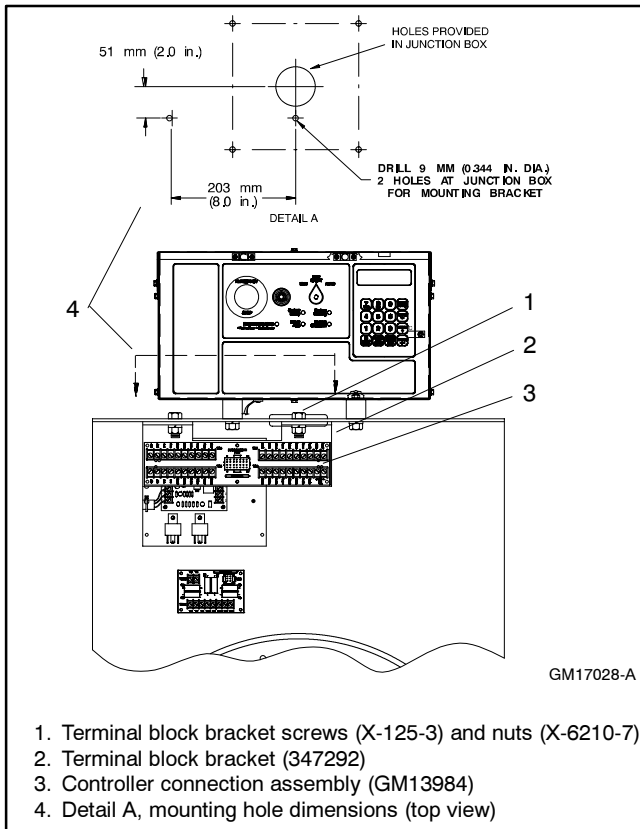

Figure 3 Terminal Block Bracket and Controller Connection Assembly Mounting (350/400 kW)
- 2.2.2 Remove the four screws attaching the controller to the junction box. See Figure 3.
- 2.2.3 Mark the drill hole locations where the terminal block bracket (347292) mounts to the junction box top panel using the dimensions given in Figure 3.
- 2.2.6 Place the terminal block bracket (347292) on the underside of the junction box top panel with the bracket mounting holes visible from the junction box rear and mount it using two screws (X-125-3) and nuts (X-6210-7). See Figure 3.